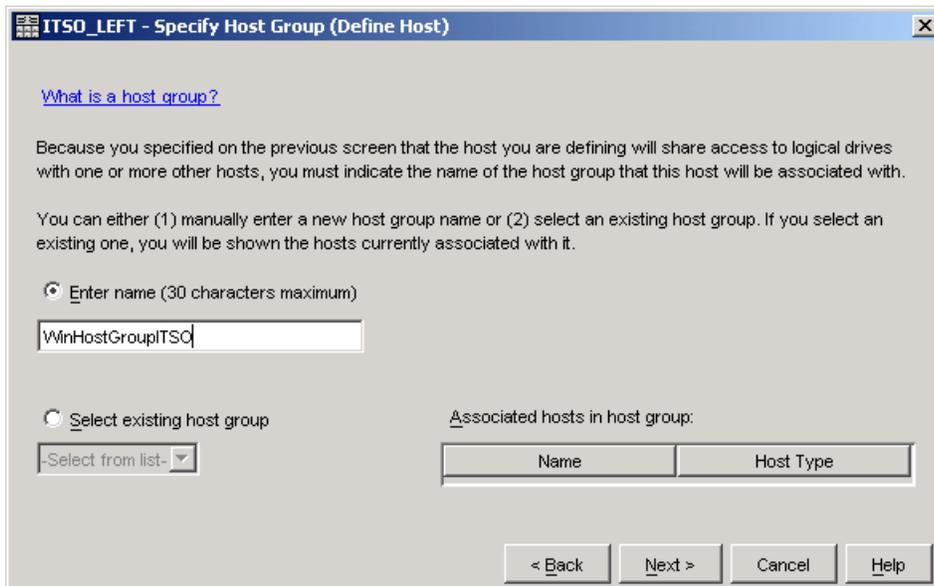

Figure 5-63 Define host: Specifying a host group
7. In the next step, you are asked whether the host is a part of a cluster. If the answer is yes, then you must specify a host group. The host group can be either a new or an existing one, as shown in Figure 5-63.